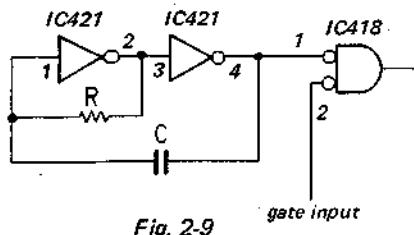

Fig. 2-9
- Fig. 2-9 shows a controllable oscillator.